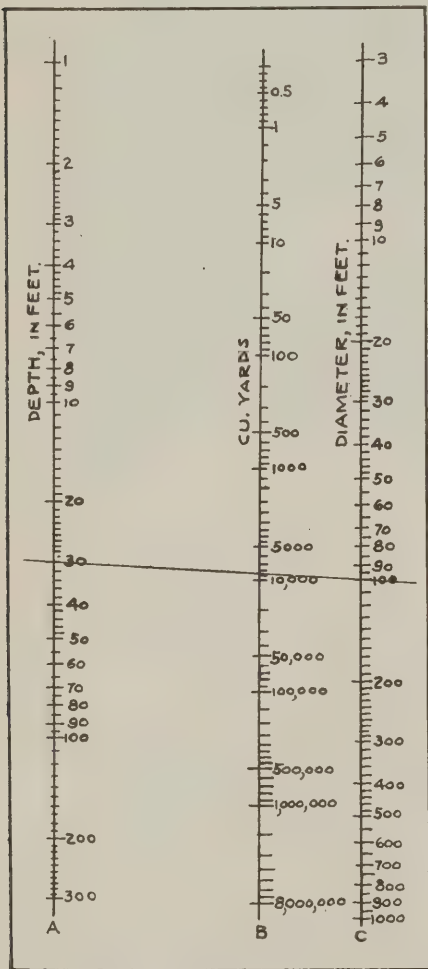

Fig. 12—Estimators' quantity scale
W. F. S. submits the following and charts, Figs. 12 and 13, for convenience in estimating:
"This chart, Fig. 12, will be found convenient for quickly estimating the number of yards to be removed from any ordinary, and most extraordinary, excavations. To use the chart simply run a straight line across from Column A to Column C and the number of yards is immediately given in Column B. For example, how many yards must be removed from a circular excavation 30 feet deep by 100 feet in diameter? The dotted line drawn across the chart shows how it is done. Connect the 30, Column A, with